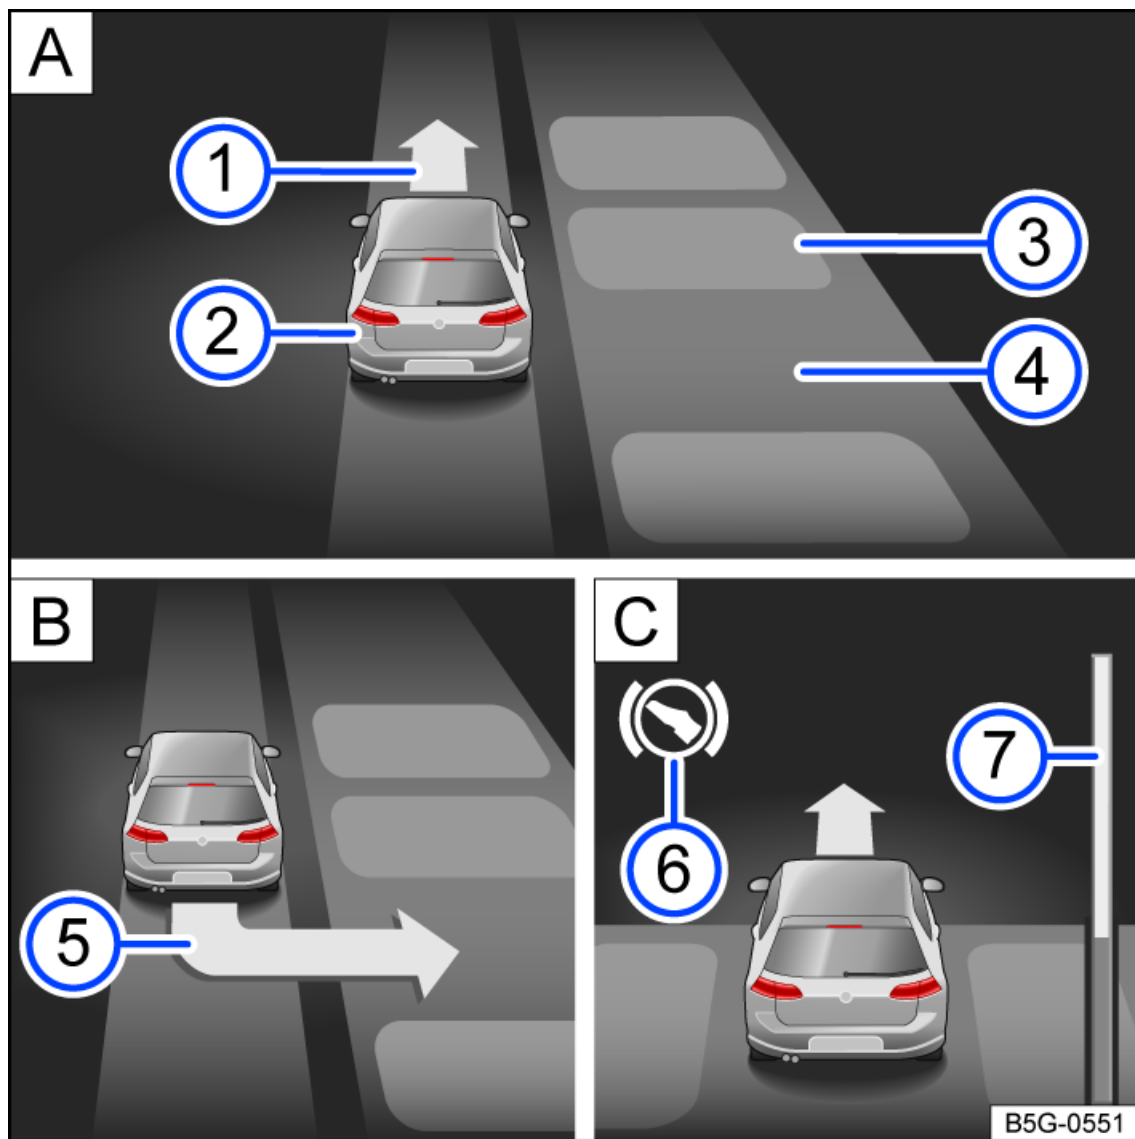

Fig. 158 In the instrument cluster display: parking perpendicular to the road.
- ① Prompt to drive forward.
- ② Your vehicle.
- ③ Parking vehicle or obstacle.
- ④ Detected parking space.
- ⑤ Request to drive backwards.
- ⑥ Request to brake.
- ⑦ Progress bar (relative distance remaining).
2. Pay attention to the prompt for parking in the instrument cluster display *fig. 158* ⑤.